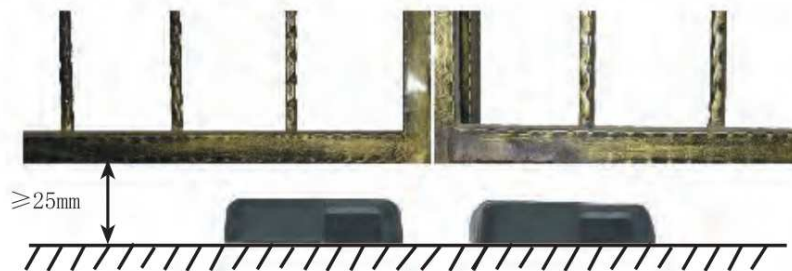

Fig.4 Heights of Gate Frame and Stop Irons
1. Check the flexibility of the gate during opening and closing, make sure that the gate does not bounce back when the gate reaches the open or close limit position. When the gate is in the close position, the bottom edge of the gate frame shall be at least 25mm above the ground (slightly higher than the stop iron, as shown in fig.4). Make special adjustments if the gap is less than 25mm.